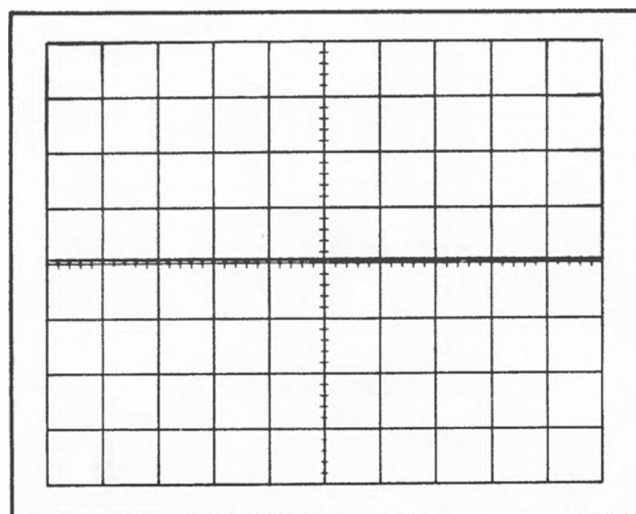

Fig. 6-29. Typical CRT display showing correct channel isolation.
f. CHECK—CRT display 0.1 division or less in amplitude (channel isolation 100,000:1 or greater; see Fig. 6-29).
i. CHECK—CRT display 0.1 division or less in amplitude (channel isolation 100,000:1 or greater; see Fig. 6-29).